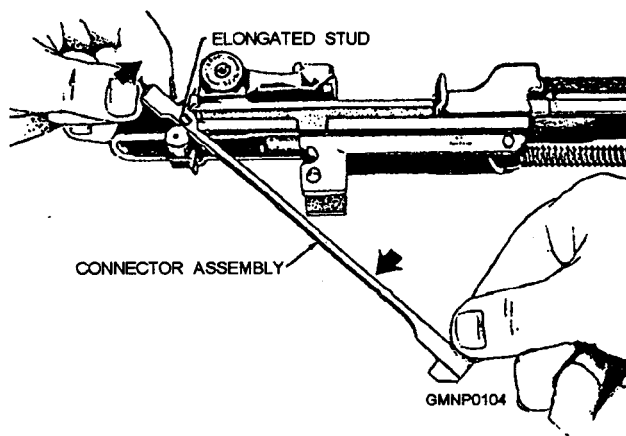

Figure 3-30.—Removing the connector assembly.
4. Rotate the connector assembly about 35 degrees clockwise until the slot at the rear is aligned with the elongated stud on the sear release (fig. 3-30); then lower the front end of the connector assembly and lift it off the sear release.